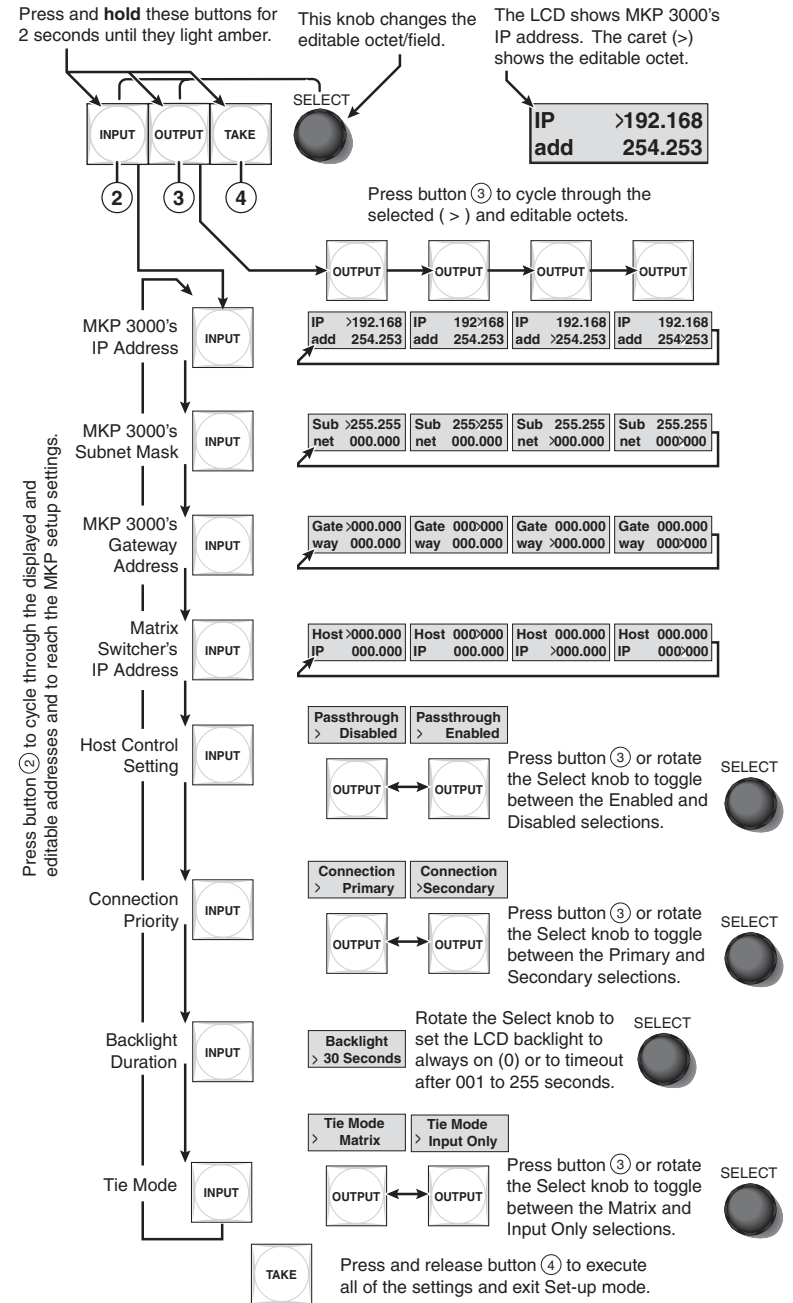

Figure 3-7 — Selecting setup parameters
To configure the MKP to operate in your LAN, you may need to change one or more IP addresses and the host control port setting. The duration of the LCD display's back light is also adjustable. Figure 3-7, "Selecting setup parameters," later in this chapter, provides a diagram of the procedures for setting up the IP connection, backlight duration, and tie mode parameters using the front panel controls.
1. Simultaneously press and **hold** buttons ②, ③, and ④ (typically labeled Input, Output, and Take) until all buttons light amber and the LCD display changes (figure 3-7) to enter setup mode (approximately 2 seconds).
Figure 3-7 on the next page provides a diagram of the procedures for setting up the IP connection, backlight duration, and tie mode parameters using the front panel controls.